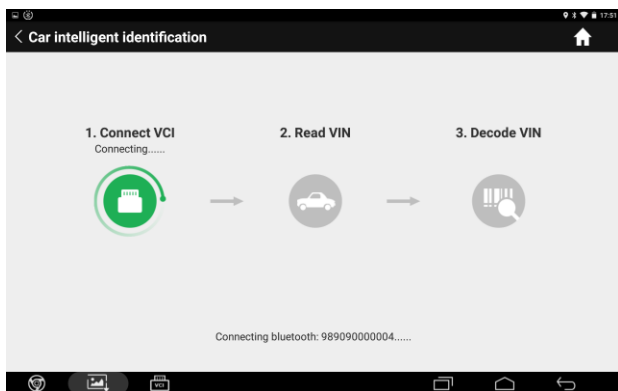

Fig. 5-1
1. Tap "Intelligent Diagnostics" on the Job menu screen to enter Fig. 5-1.